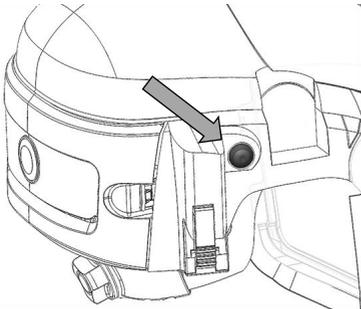
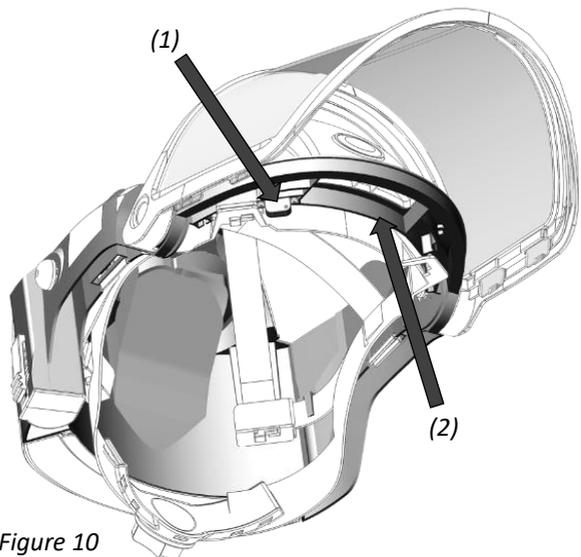

Figure 9
Figure 10
Activate the respirator with the on/off switch as shown in Figure 9, noting the LED display. (Figure 10)
If the respirator is working correctly, status indicator LED (Figure 10(1)) will illuminate green.
2. Activate the respirator with the on/off switch as shown in Figure 9 and perform the following test, noting the LED indicator.
3. Use your hand to block the airflow outlet as shown in Figure 10(2). If the respirator is working correctly the fan will increase in speed.
7. Switch the respirator off using the on/off switch as shown in Figure 9 to cancel the test.